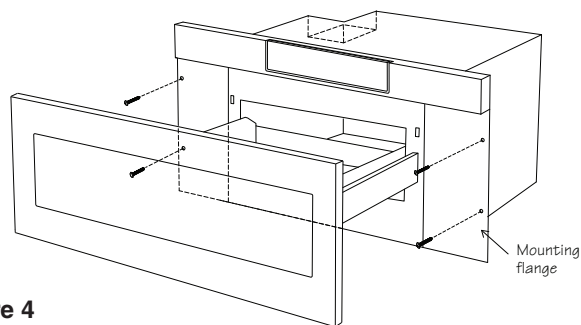

Figure 4
6. Open the drawer. Using the 4 holes on the drawer as a template, pre drill the cabinet using a 1/16" (1.57 mm) bit. See Figure 4.